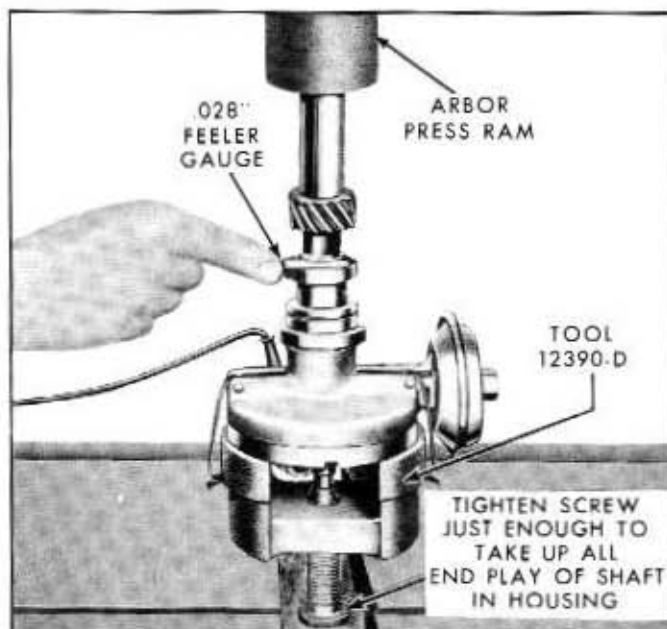

Fig. 10A-69—Gear Installation—(60C-7726)
5. The breaker plate is shown installed in figure 10A-68. Position a new breaker point assembly on the breaker plate. Be sure the pivot pin enters the hole in the breaker plate.